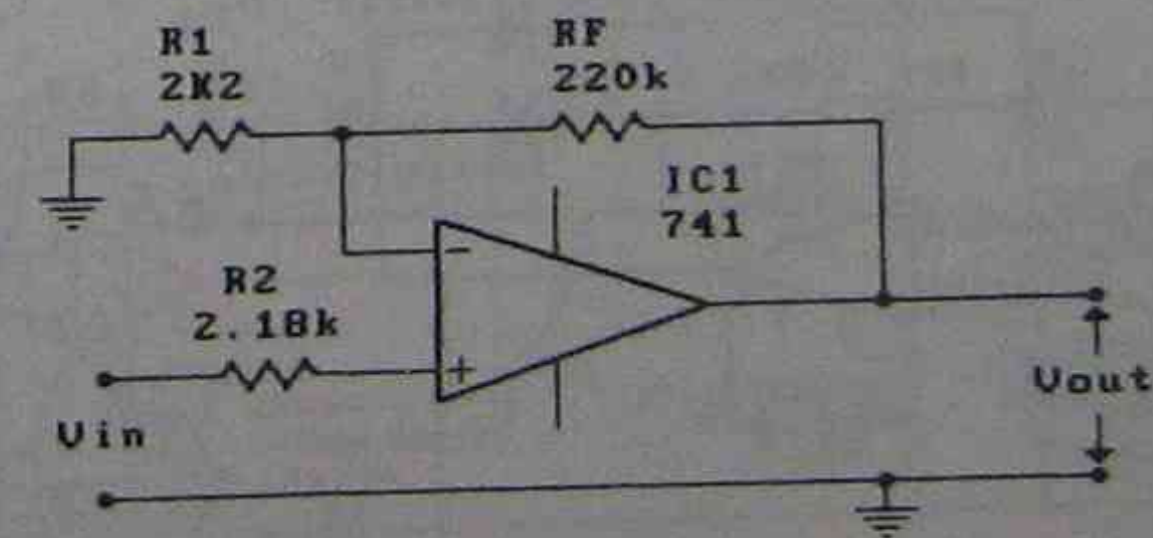

Fig.2.
3. The circuit of Fig.2 is a non-inverting amplifier constructed with a 741 op amp. If the slew rate of the 741 is $0.5\text{V}/\mu\text{s}$ and its unity gain bandwidth is 1MHz, determine: